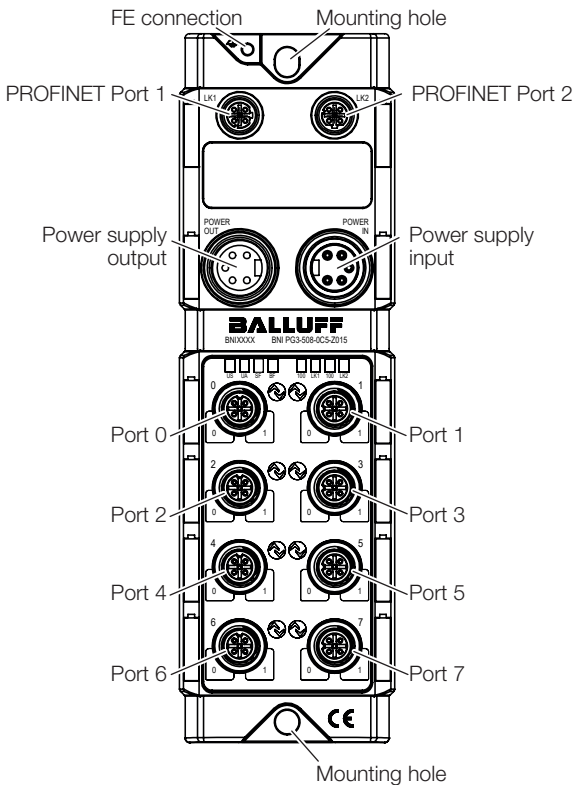

Fig. 4-2: Device overview
- ▶ Fasten the module with 2 M6 screws and a maximum tightening torque of 3 Nm using the mounting holes (see Fig. 4-2 on page 7).